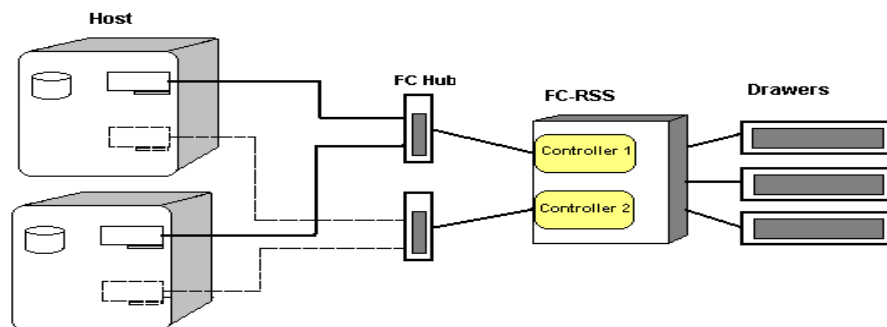

Figure 29. Multi Host (One FC-RSS)
- Multi-host—A pair of hosts, each with host adapters connected to one or more RAID controller units. Windows NT requires MSCS and Windows NT 4.0 Server Enterprise. Use of a Fibre Channel Hub for each controller is recommended. Figure 29 on page 51 shows a schematic of a multi-host configuration which provides availability in case of failure of one of the FC-AL loops. In case one of the hosts fails, and with the appropriate software, the backup host can take over the failed host's disk.